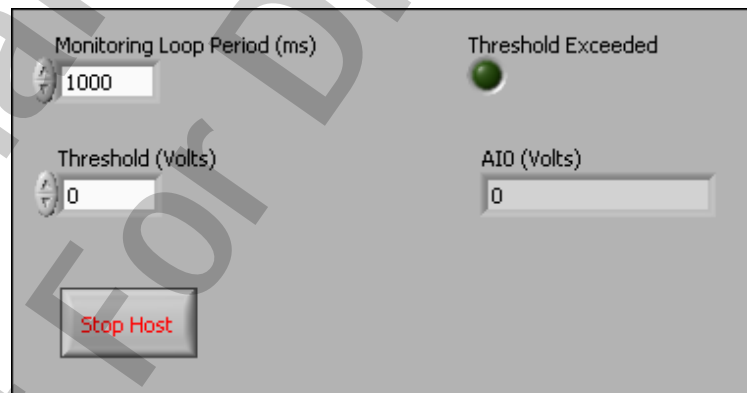

Figure 8-2. Threshold Windows Host VI Front Panel
4. Create the front panel controls and indicators of the Threshold Windows Host VI as described in Table 8-1 as shown in Figure 8-2.